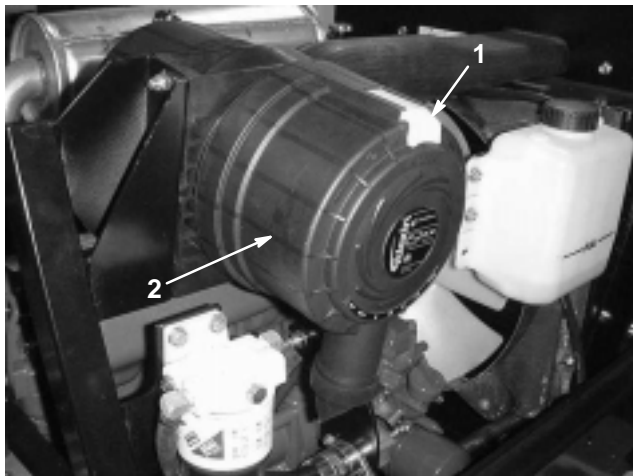

Figure 28
Service the air cleaner filters when the air cleaner indicator (Fig. 28) shows red or every 400 hours (more frequently in extremely dusty or dirty conditions). Do not over-service the air filter.
1. Pull the latch outward and rotate the air cleaner cover counterclockwise. Remove the cover from the body (Fig. 28). Clean the inside of the air cleaner cover.
8. Reset the indicator (Fig. 28) if it shows red.